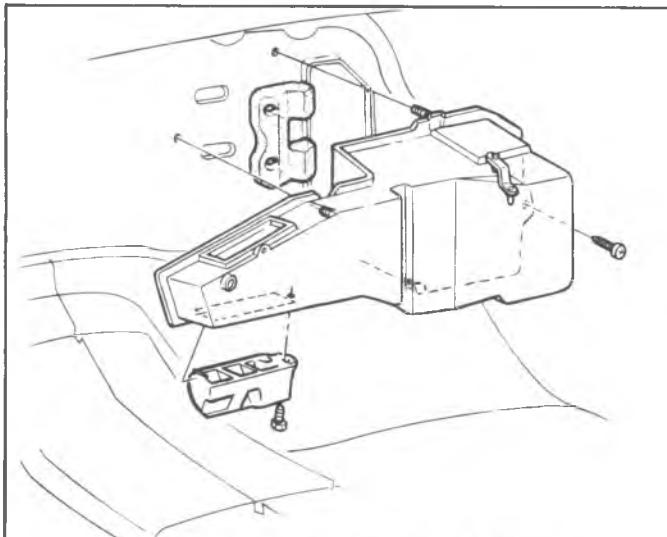

Fig. 5-Heater Distributor Assembly-C-K Models
**HEATER DISTRIBUTOR AND CORE ASSEMBLY****C-K Models****Replacement (Fig. 5)**